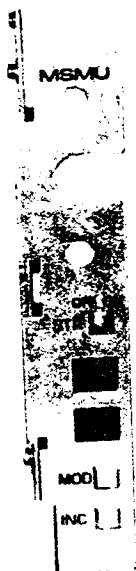

FIGURE 40—MSMU FACEPLATE
10.24 The MSMU faceplate is equipped with three switches and two LED displays (Figure 40). Looking from top to bottom; the functions of the switches are as follows: